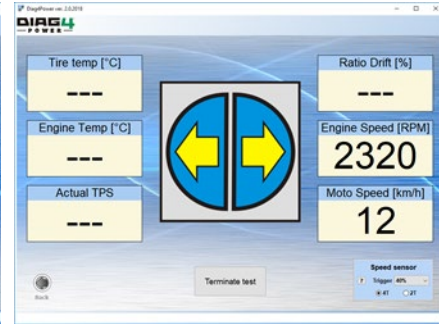

Fig. 16 – Symbol for clutch disengagement
- In this measurement phase, the engine accelerates and on reaching the top measuring speed the program displays a symbol for the clutch disengagement (see Fig. 16)